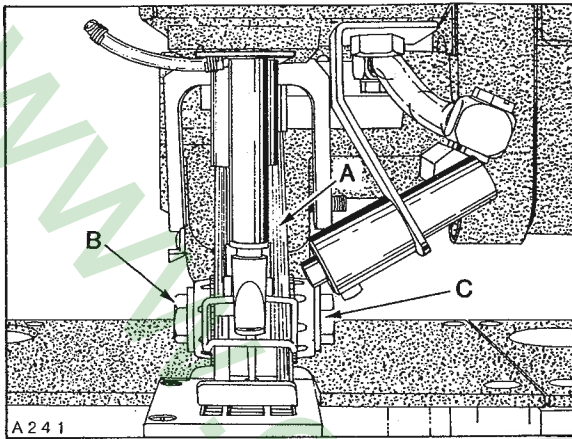

Fig. 38
Belt puller drive belt (A, Fig. 38) should have approximately 1/8 inch (3.2mm) deflection when pressing firmly between drive sprockets. If adjustment is required hold lock nut (B) and loosen lock nut (C). Turn nut (B) to apply tension. Hold nut (B) firmly and tighten nut (C) securely.